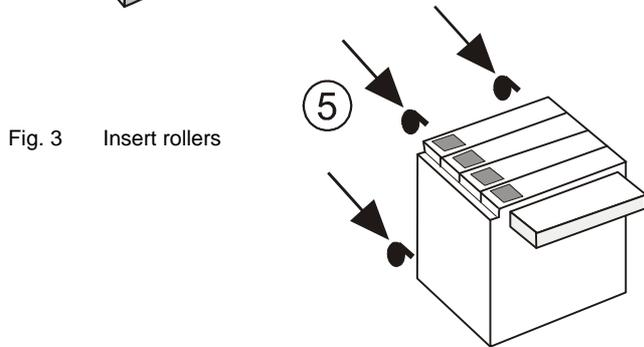

Fig. 3 Insert rollers
- Insert the rollers from the accessories box with some force onto the shafts on the TowerFeed bottom plate until they snap into position with an audible click ⑤ (Fig. 3).